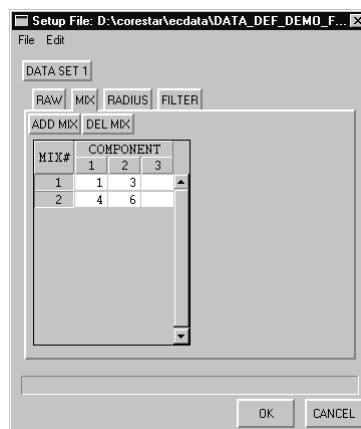

Figure 3-98. Setup Dialog - MIX Tab
- ❑ **SETUP > MIX Tab:** The **MIX** tab on the **Setup** dialog is shown in Figure 3-98. This dialog displays current mix settings, if any, and is used to create new mixes. Figure 3-98 shows two (2) mix or process channels. **Raw** channels 1 and 3 are combined for Mix# 1 while **Raw** channels 4 and 6 are combined for Mix# 2. Up to three (3) channels may be selected for any given mix channel.